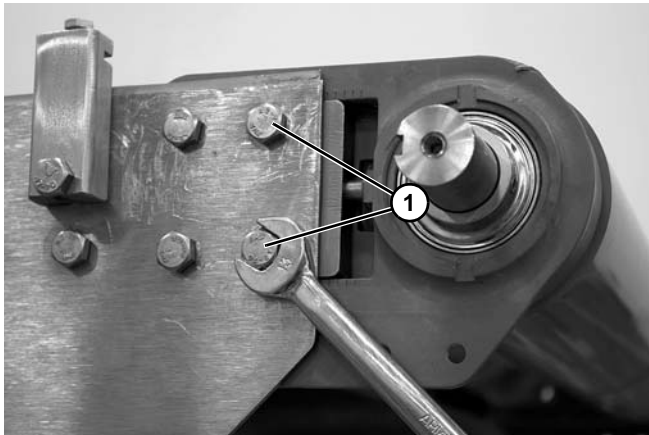

Figure 71
3. Remove two headplate bolts (**Figure 71, item 1**). Repeat on opposite side of the conveyor.